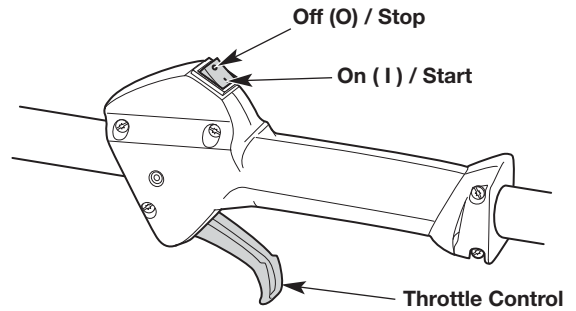
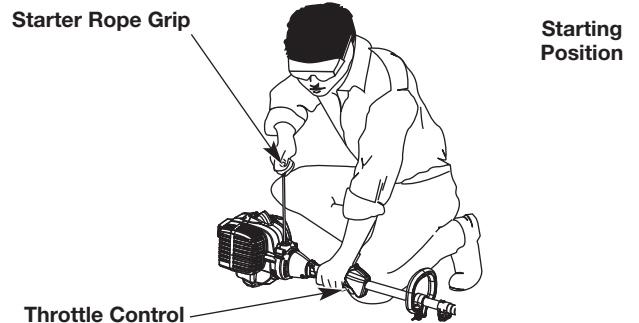

Fig. 6
Fig. 8
WARNING: Avoid accidentally starting the unit. To avoid serious injury, the operator and the unit must be in a stable position when pulling the starter rope (Fig. 8).
NOTE: There is no need to turn the unit on. The On/Off switch is in the ON (I) position at all times (Fig. 6).
5. Crouch in the starting position (Fig. 8).
6. Squeeze the throttle control (Fig. 6) and pull the starter rope with a controlled and steady motion **5 times** (Fig. 8).
2. Press and hold the On/Off switch in the OFF (O) position until the engine comes to a complete stop (Fig. 6).